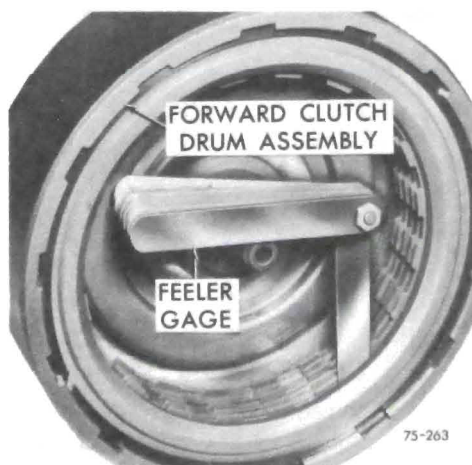

Figure 75-208A
pressure plate and faced plate. See Figure 75-208A. There are (3) three pressure plates available which are identified by tangs adjacent to the source identification mark. See Figure 75-208B. If checking height is .0205"-.0560" use pressure plate with no tang, .0560"-.0870" (1) one tang, .0870"-.1430" (2) two tangs.